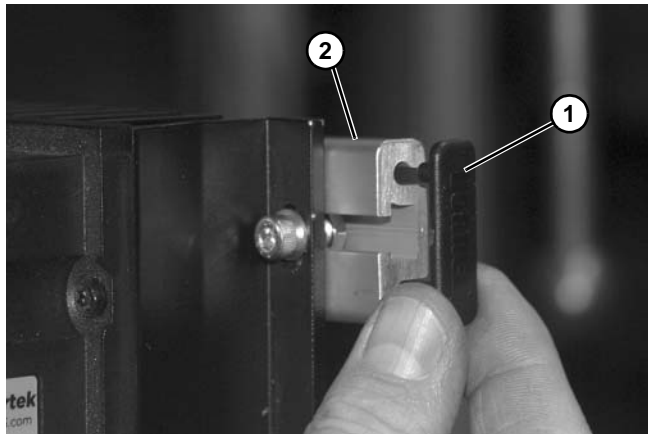

Figure 12
- Install end cap (Figure 12, item 1) onto each end of mounting rail (Figure 12, item 2).